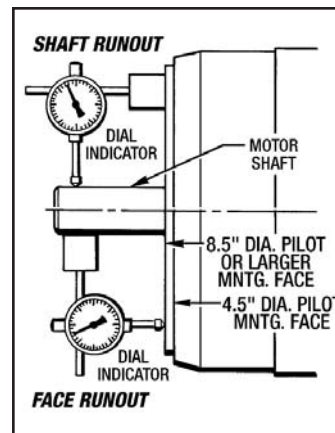

Figure 3.1 - Verifying Motor Specifications
The Motor Manufacturer's Specifications must be verified first to ensure the Motor Brake Oil Seal Reliability. (1) Motor Shaft Runout and (2) Mounting Face Runout needs to be checked with a Dial Indicator as shown in Figure 3.1.